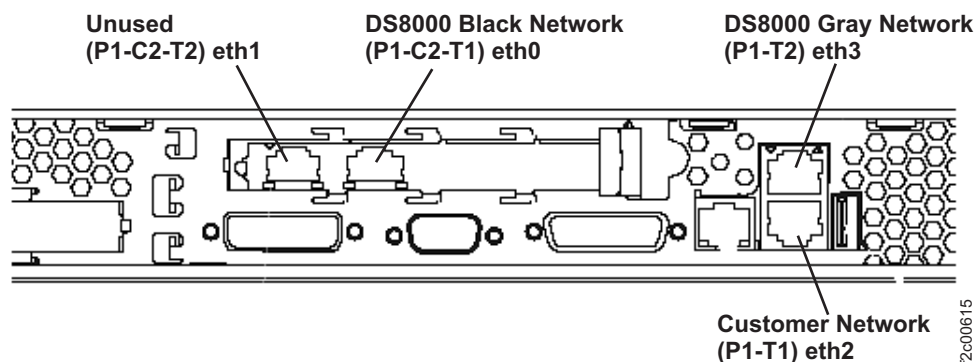
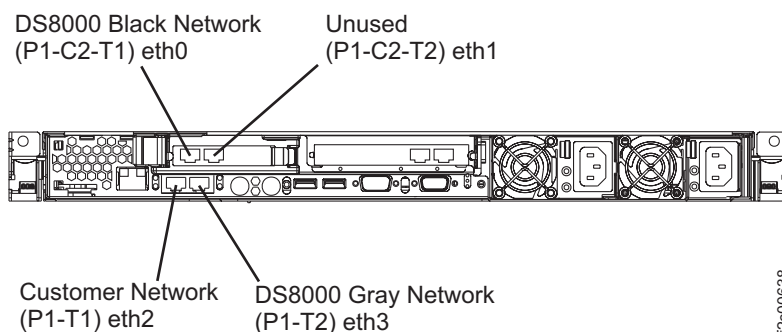

Figure 77. Ethernet connectors on the rear of the X335 management console server
Figure 78. Ethernet connectors on the rear of the X336 management console server
- c. Connect the cable to the customer Ethernet connector (eth2) on the rear of the management console server. See Figure 77 (X335 server) or Figure 78 (X336 server).
- At the rear of the HMC, plug the black cable into the P1-C2-T1 connector (eth0) and the gray cable into the P1-T2 connector (eth3) at the rear of the HMC as shown in Figure 77 on page 94 (X335 server) or Figure 78 on page 94 (X336 server).